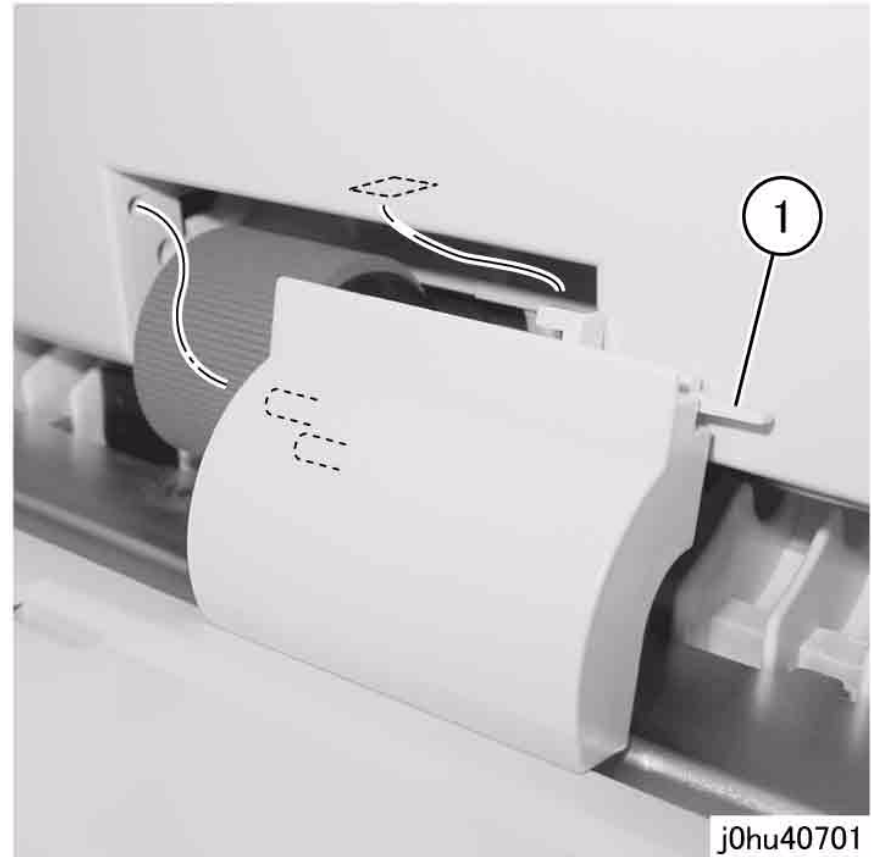

Figure 1 Remove Feed Roll Cap
2. Remove the Feed Roll Cap (Figure 1).